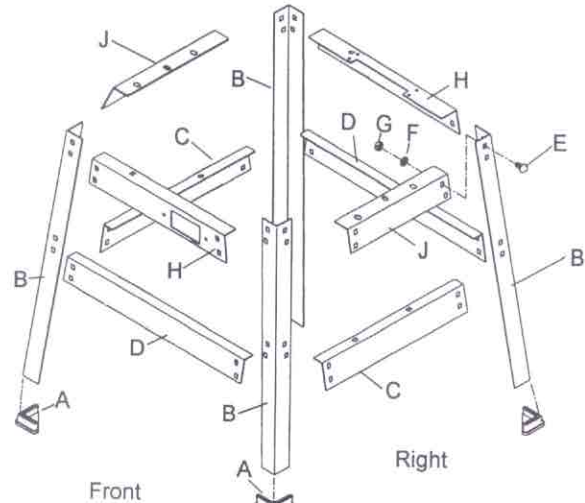

Fig. 1
1. Push four rubber feet (A, Fig. 1) onto the bottom end (without holes) of four stand legs (B, Fig. 1).
2. Attach left and right cross braces (C, Fig. 1) to the four stand legs with 8 5/16" x 1/2" carriage bolts (E, Fig. 1), 8 5/16" flat washers (F, Fig. 1), and 8 5/16" hex nuts.
3. Attach front and rear cross braces (D, Fig. 1) to the four stand legs with 8 5/16" x 1/2" carriage bolts (E, Fig. 1), 8 5/16" flat washers (F, Fig. 1), and 8 5/16" hex nuts (G, Fig. 1).
4. Attach front and rear stand tops (H, Fig. 1) with 8 5/16" x 1/2" carriage bolts, eight 5/16" flat washers, and eight 5/16" hex nuts.
5. Attach left and right stand tops (J, Fig. 1) with 8 5/16" x 1/2" carriage bolts, eight 5/16" flat washers, and eight 5/16" hex nuts.